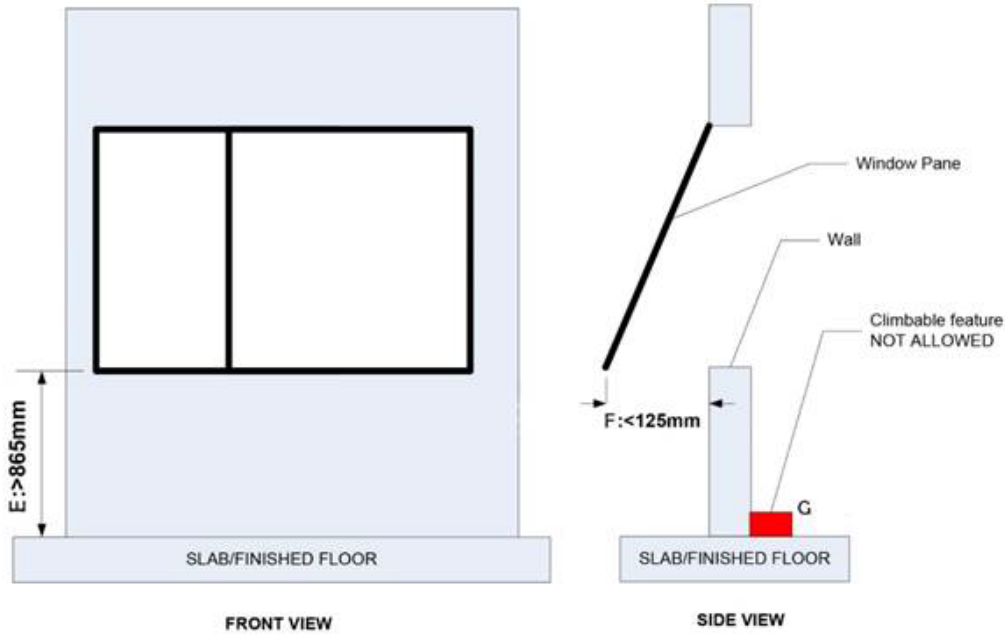

Figure 2 Openable Window Design Parameters
- 3.1 Openable windows shall not be located at a height less than 865mm from the finished floor surface level (E). The minimum height is measured from the finished floor level or highest climbable point. (See Figure 2)
- 3.2 The window pane shall not create a gap more than 125mm from the wall, when opened (F). (See Figure 2)
- 3.4 There should not be any climbable construction features at the bottom of the window (G). (See figure 2) In case of such feature, minimum height distance of 865mm shall be measured from the highest climbable point. (See Item 3.1)